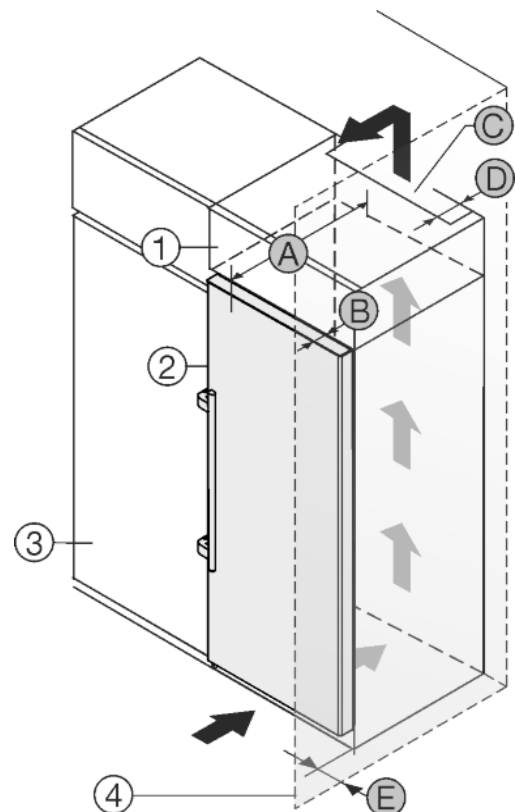

Fig. 30
The appliance can be built into kitchen units. A top cupboard *Fig. 30 (2)* can be added above the appliance in order to bring the appliance *Fig. 30 (1)* up to the height of the fitted kitchen units.
If the appliance is positioned directly next to a kitchen cabinet *Fig. 30 (3)*, a distance of at least 5 cm from the appliance is necessary. The appliance must protrude by the depth *Fig. 30 (B)* from the front of the cabinet so that the doors can be opened fully. The appliance may protrude further depending on the depth of the kitchen cabinets and whether wall spacers are used.
- At the back of the top cabinet, there must be an air outlet shaft with depth *Fig. 30 (D)*, spanning the entire width.
- The ventilation shaft *Fig. 30 (C)* must be observed under the ceiling.
If the appliance is installed with the hinges next to a wall *Fig. 30 (4)*, the distance *Fig. 30 (E)* between the appliance and the wall must be observed. This is how far the handle protrudes when the door is open.